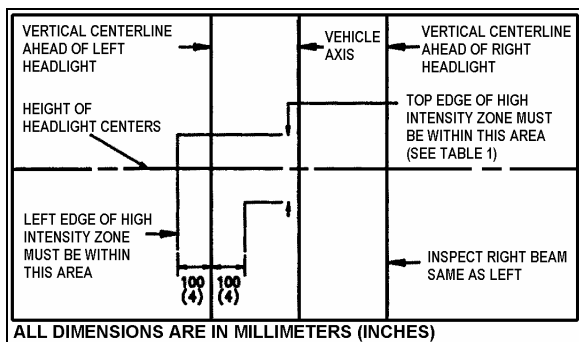

FIGURE 35: AIM INSPECTION LIMITS FOR LOWER-BEAM HEADLIGHTS
- The inspection limits in the vertical direction for low-beam headlights or the low beam of a dual-beam headlight, shall be as described in Table 1. In the horizontal direction, the left edge of the high-intensity zone shall be located from 10 cm (4 in) left to 10 cm (4 in) right of the vertical centerline of the beam. The viewing screen shall be located 7.6 m (25 ft) in front of the vehicle (Fig. 35).